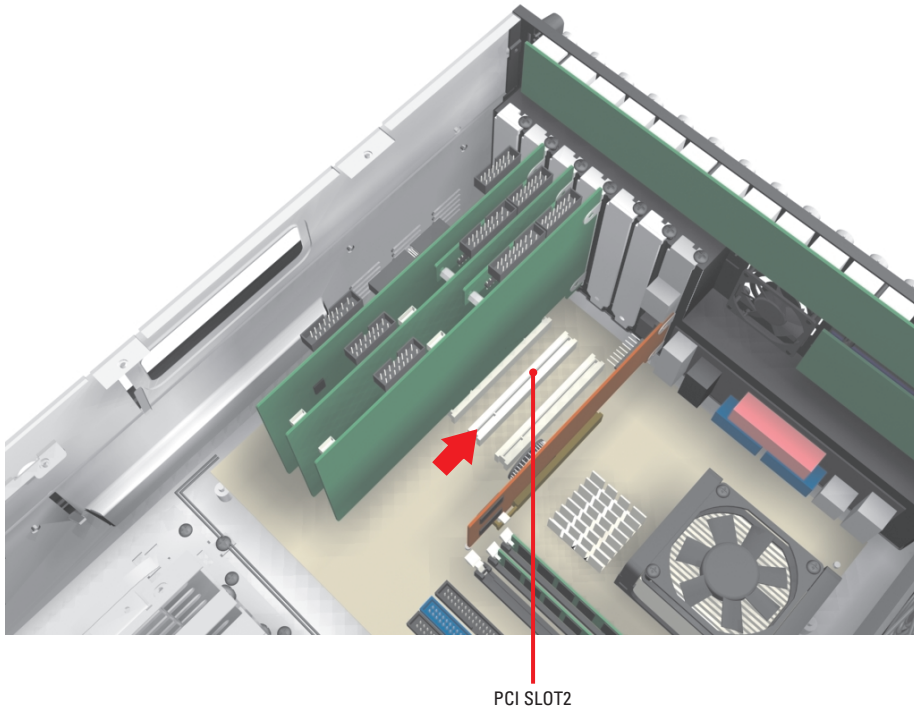

Figure 9. Location of PCI Slot 2
1. Locate PCI Slot 2 on the system motherboard. Refer to Figure 9.